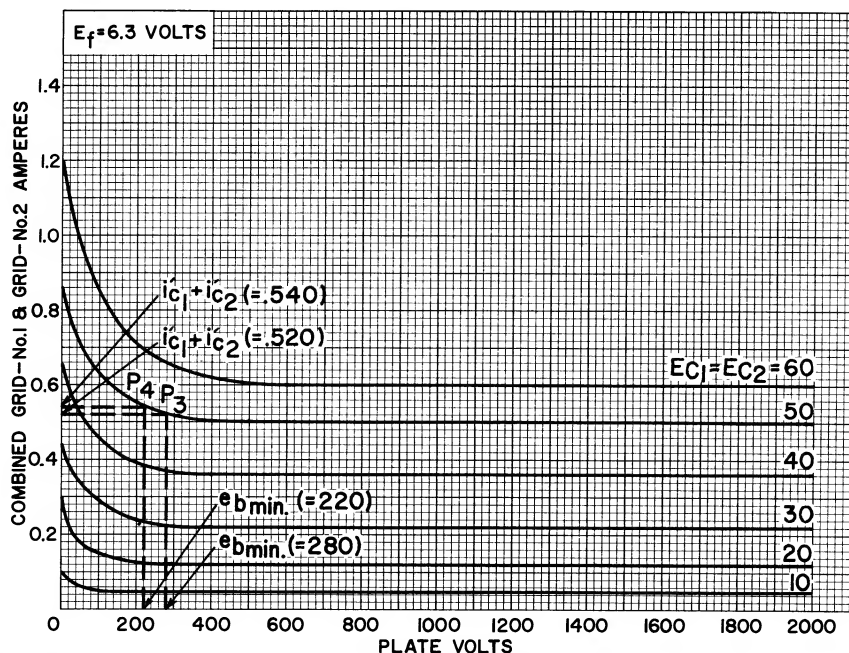

Figure 2: Typical grid characteristics for type 7094 triode connection (grid No. 1 connected to grid No. 2.)
(7) Select a point P3 on knee of one of the curves shown in Figure 1 at which $i'_{b/4}$ equals 0.642 ampere. At this point, e_{cm} is +50 volts and e_{bmin} is 280 volts. From the curves shown in Figure 2, $i'_{c1} + i'_{c2}$ equals 0.520 ampere.